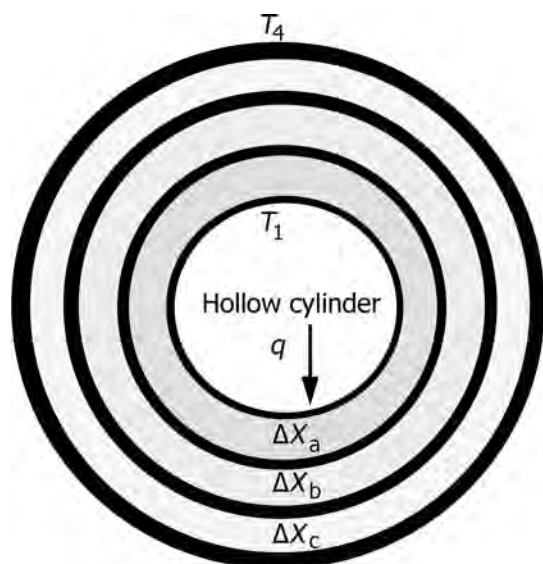

FIGURE 8.10 Multilayer hollow cylinder.
- Multilayer hollow cylinder: One-dimensional heat conduction (Figure 8.10).